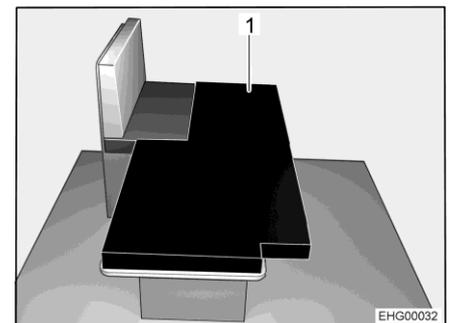

Fig. 52 After conversion
- Place additional cushion (Fig. 52,1) on the lowered table as shown in the image.